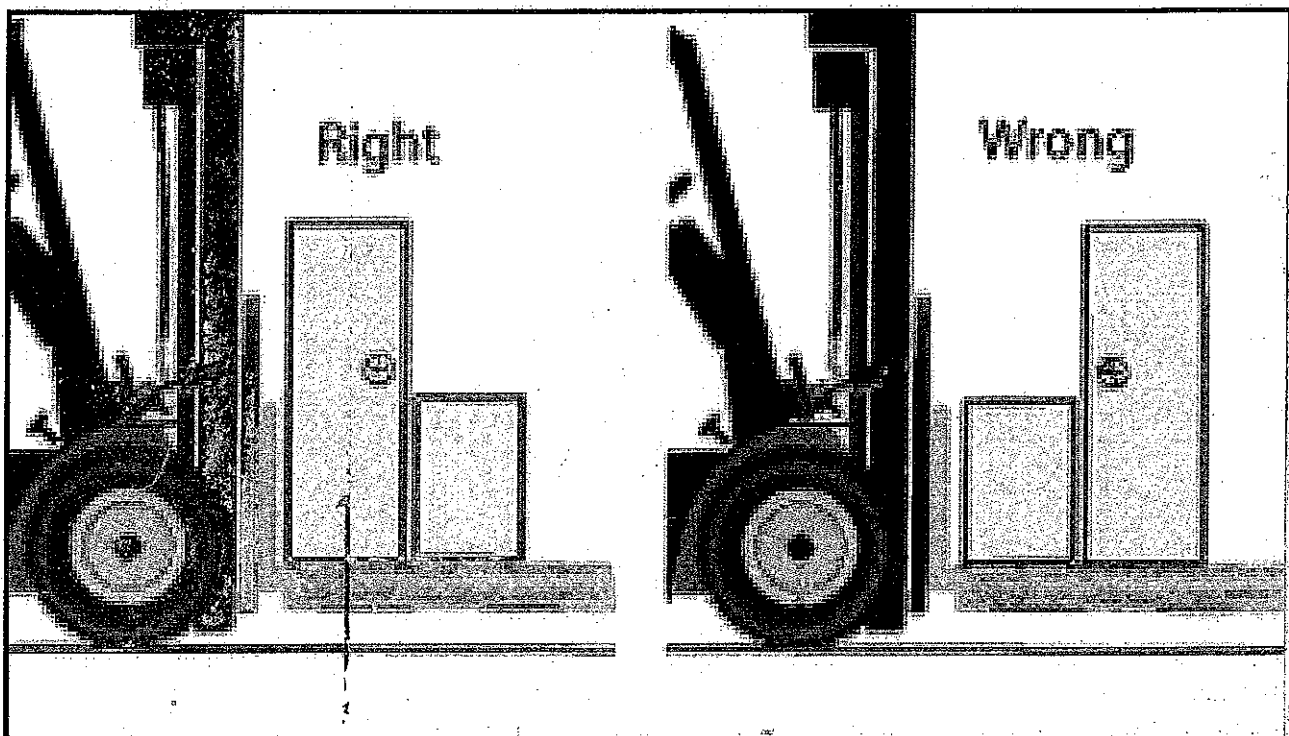

Figure 3. The heaviest weight should be loaded as close to the masts as possible.
- Load as close to the front wheels as possible to minimize the load center distance. Load the heaviest part toward the mast. (Figure 3)